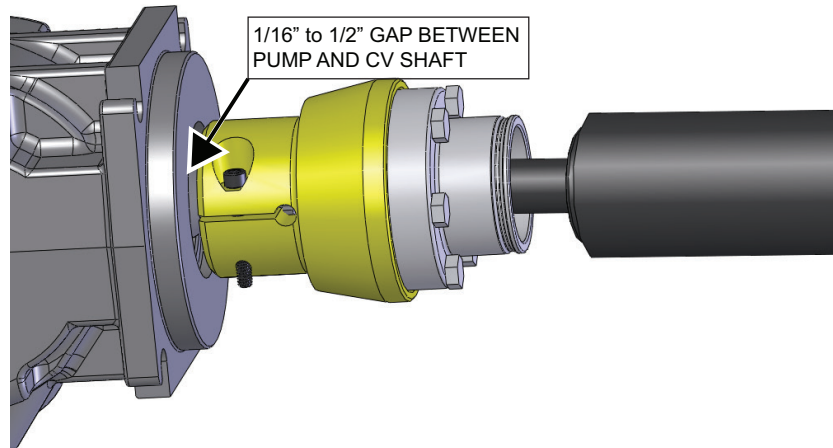

Figure 1
- c. If there is 1/16" to 1/2" gap between the pump and CV shaft (Figure 1).